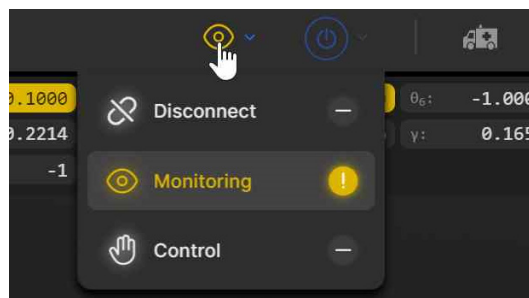

Figure 15: Connection state button
1. Click on the connection state button on the top right of the MecaPortal and select "Control" (see Figure 15).
Normally, once the web user interface is loaded, you have not only established an HTTP connection with the robot, but also activated the socket messaging which is the only communication channel between the web interface and the robot. By default, the web interface connects to the robot in monitoring mode only (as seen in Figure 15). To control the robot click on the ☺ icon and select 🤖. If the robot is in error when you connect to the robot, the connection state button will show a red blinking ⚠ icon. You can still press that button and select to only monitor or control the robot. The monitoring option can be used to see in real-time the motion of the robot when another client (e.g., another MecaPortal, a Python program, or a Profinet application running on a PLC) is controlling the actual robot.